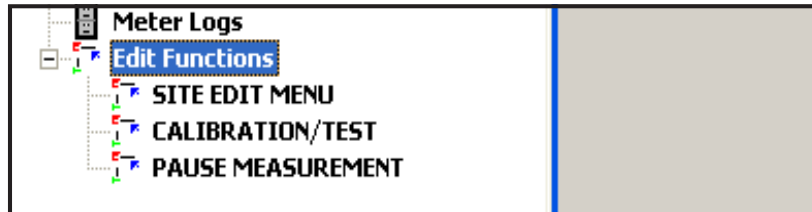
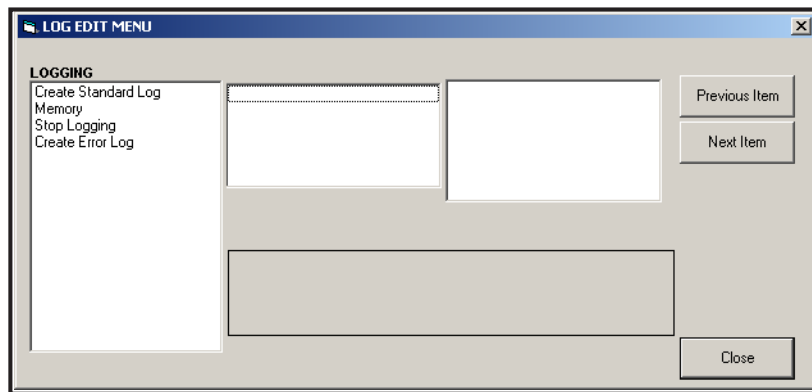

Figure 10: Edit Functions Menu for XGF868i with Logging Card
Figure 11: Log Edit Menu Window
1. From the *New Meter Browser* in PanaView, expand the network tree and open the *Edit Functions* option (described in Appendix C, *Programming the XGF868i via PanaView*). The menu will appear similar to Figure 10.
2. Double-click on the *Log Edit Menu*, as shown in Figure 10. The window appears similar to Figure 11.